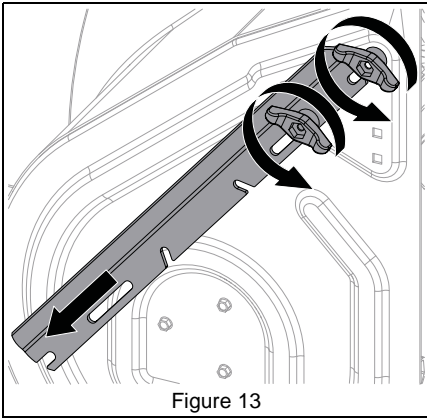

Figure 13
1. Loosen wing knobs and move drift cutter down. See Figure 13.